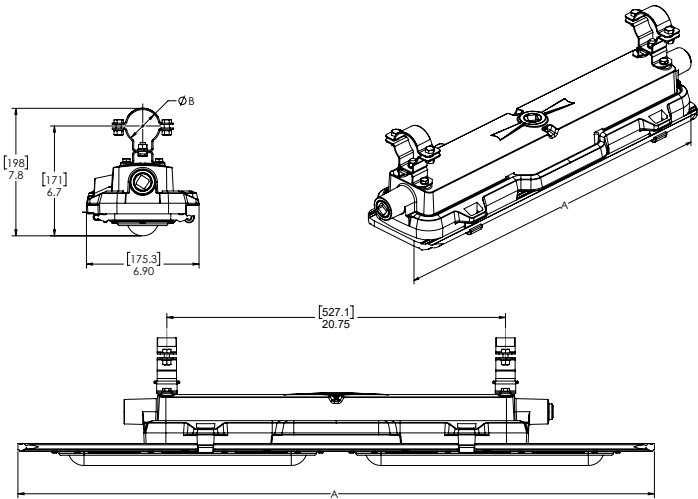

Figure 4. Pole Mount Installation
- 3. Pole mount brackets are spaced 20.75" on the bracket centerlines as shown in Figure 4.
- 4. Tighten two (2) of the provided 1/4" hex bolts and split ring lock washers on each bracket sub-assembly. Torque to 64 in-lbs (7.2 N-m).
- 5. Remove the two (2) 5/16" screws, lock washers and nuts on each clamp and remove the upper clamp halves.
- 6. Luminaire is now ready for mounting. It is strongly suggested to use two (2) qualified tradespeople to proceed with the final mounting of the luminaire. This is recommended to avoid any personal injury or damage to the luminaire.